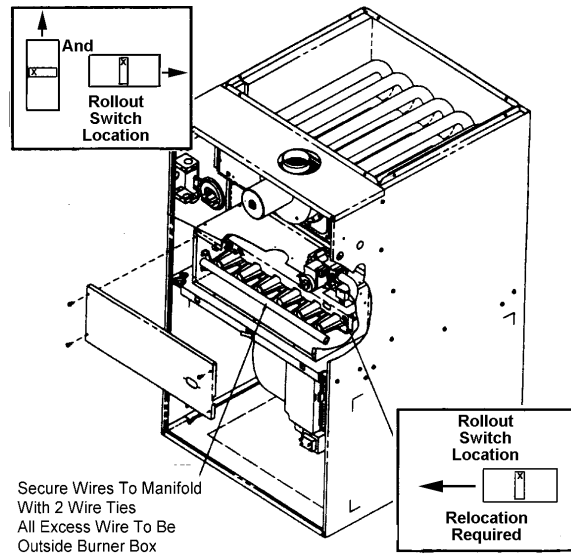

Figure 33
2. See Figures 33 and 34. Remove the cover from the burner box. Save the screws that held it in place. (**Note:** There are several screw holes, but only four screws. This is intentional, and not a manufacturing defect.)